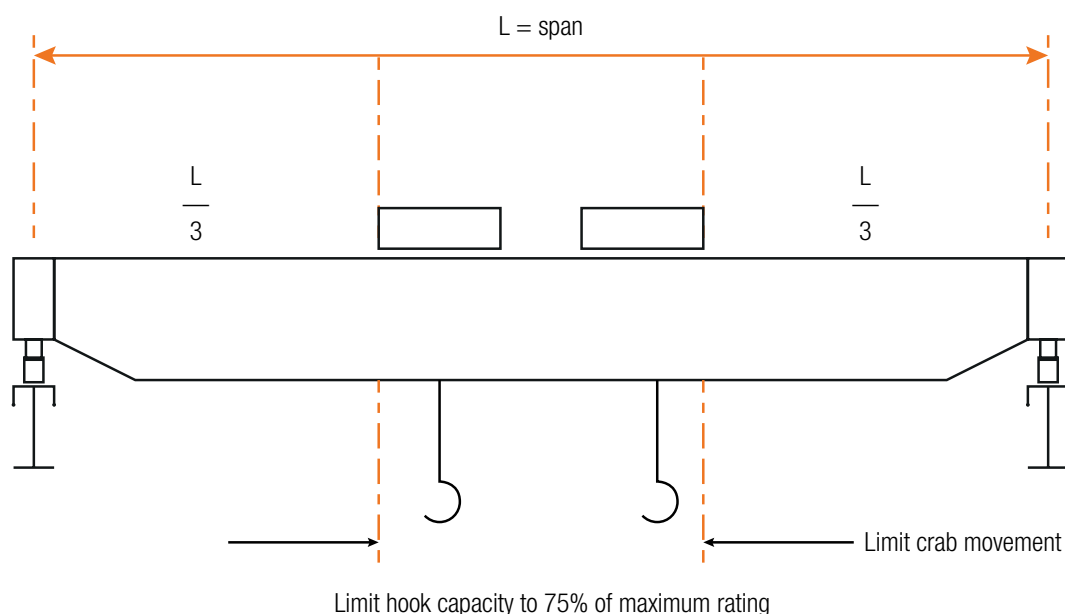

Figure 4 Schematic side view of bridge crane showing recommended short-term operating parameters when eccentricity has not been considered in the design
- If the design omission or error exists, consider an interim short-term operational down-rating. For example, operate the crane in a 75 per cent down-rated load-carrying capacity and limit the crab movement to the central third of the bridge (Figure 4) until the defect is adequately addressed. These load and movement restrictions will produce less force on the bolted end connections than that experienced during load testing.